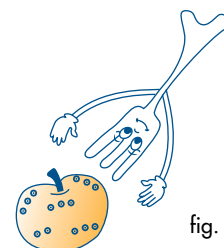

fig. 9
- Remove the turntable (H) and its protection. Make sure the turntable spindle (D) is inserted correctly in the centre of the turntable.
- 6) **When positioning the appliance on the worktop, make sure that there is a gap of approx. 5 cm between the surfaces of the appliance and the rear and side walls, and a gap of at least 25 cm above the oven (fig. 9).**
- 4) **Foods having a skin, shell or peel (e.g., apples, potatoes, tomatoes, frankfurters, fish) must be pierced with a fork in several points so as to permit steam to escape and to prevent those items from exploding (see Fig. 9).**